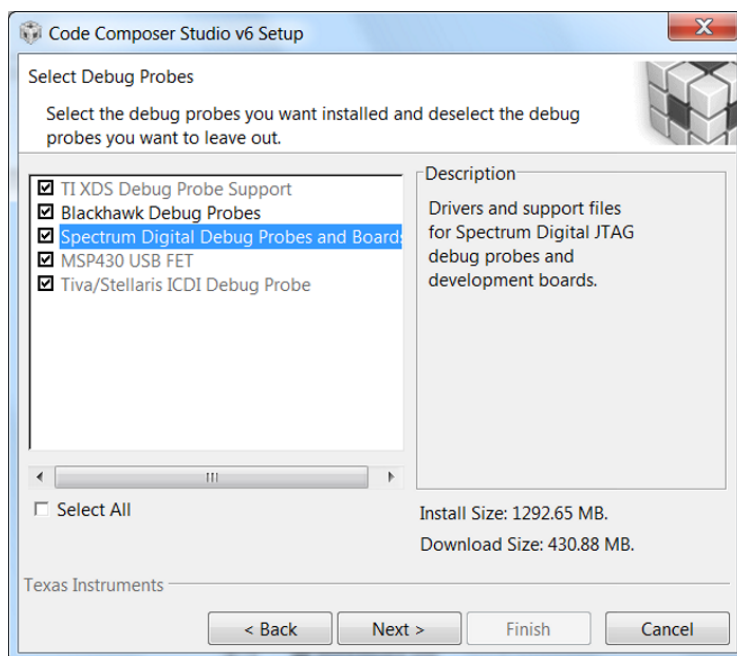

**Figure 11. Processors Supported by CCS**
- Step 4. Choose the processor architectures to install (see Figure 11).